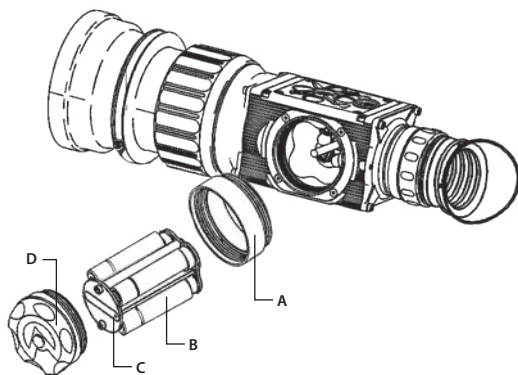

FIGURE 3-3. AA BATTERIES INSTALLATION
Install four (4) AA batteries as follows (refer to Figure 3-3):
3. Install battery box extender ring (A, Figure 3-3):
4. Insert four (4) AA batteries (B) into the battery cartridge (C) with all of the batteries oriented in the same direction. The negative (-) terminals should be against the cartridge springs.